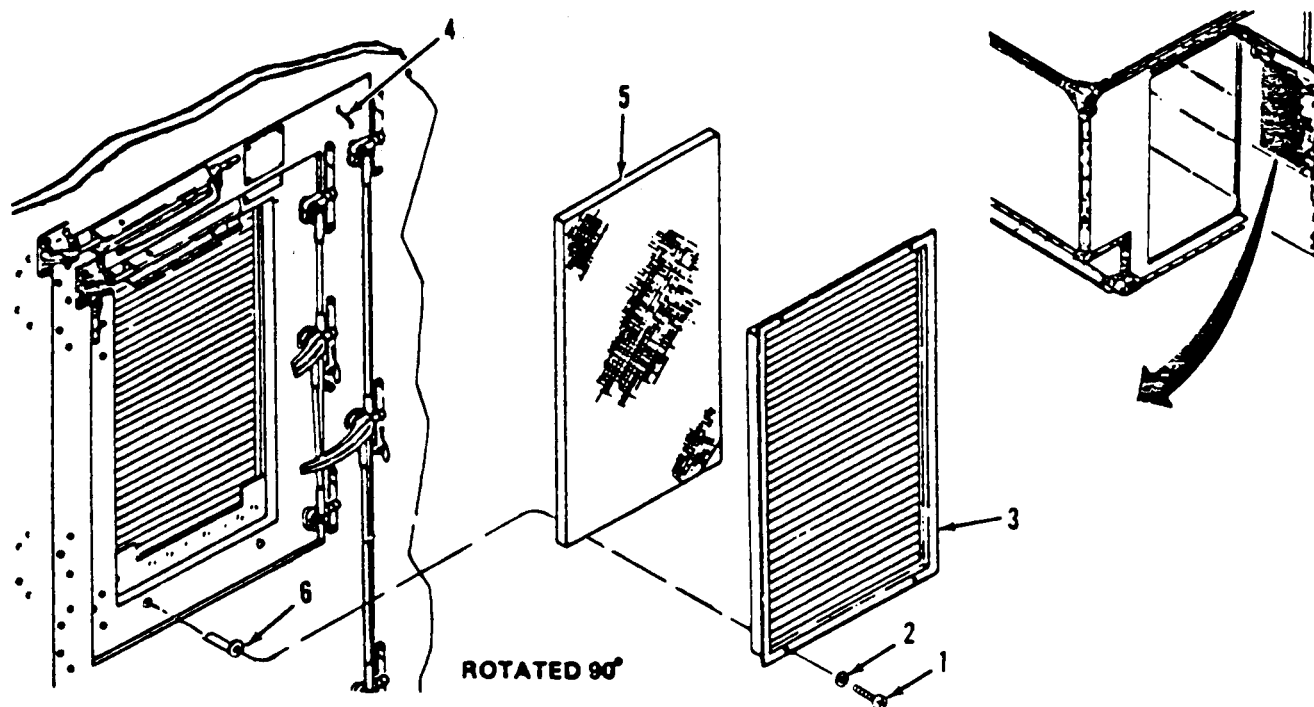

Figure 3-27. Directional Vane Assembly and Air Intake Filter Replacement.
- (1) Inspect for damaged directional vane assembly.
- (2) Inspect for loose or missing attaching hardware.
*b. Replace. (Figure 3-27)*
- (1) Remove and retain four phillips head screws (1) and lock washers (2) and take directional vane assembly (3) off inside of inner door assembly (4). Remove air intake falter (5).
- (2) Inspect condition of rivnuts (6) and replace if necessary (paragraph 3-9. b). Replacement rivnuts must have same inside diameter and thread size as rivnut removed. Dip new rivnuts in sealer prior to installation.
- (3) Position air intake falter (5) in recess on inside of inner door assembly (4).
- (4) Position directional vane assembly (3) on inner door assembly (4) over falter (5). Make sure vanes are aiming up toward interior of shelter, as shown in figure 3-27. Dip four phillips head screws (1) in sealer and install with four lock washers (2).